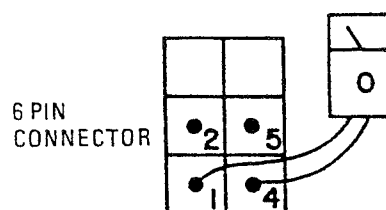

Figure 5-5. Back View Connector B
3. Use an ohmmeter R x 1 scale to measure the following connector pins in connector B. See figure 5-5.
2. Disconnect connector A and A'. See figure 5-5. All other connectors should be connected.